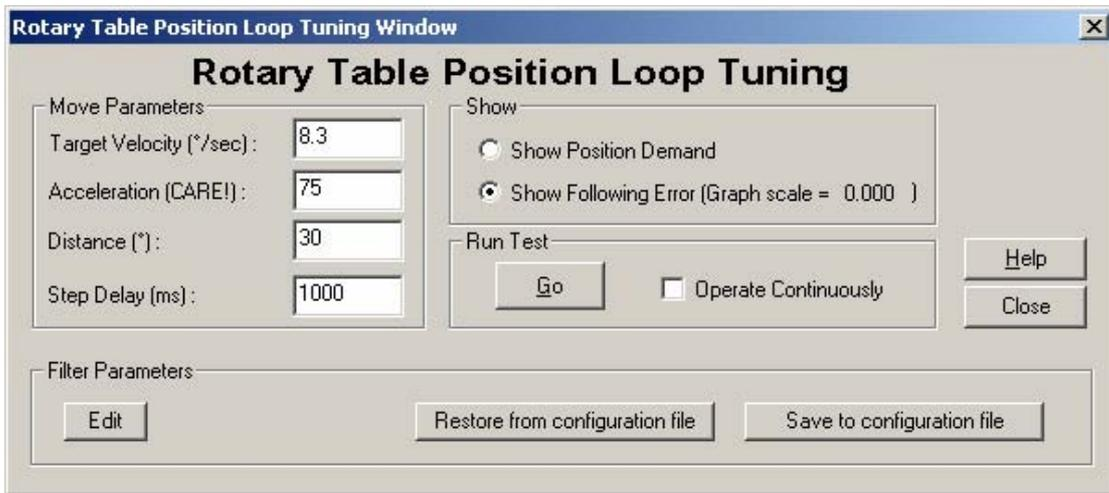

Figure 22
4. Repeat these steps, raising the values of  $K_A$  and  $K_{P1}$  until final values of  $K_A$  and  $K_P$  are found (see figure 22). The final value of  $K_P$  obtained during this process is referred to as  $K_{P3}$ .